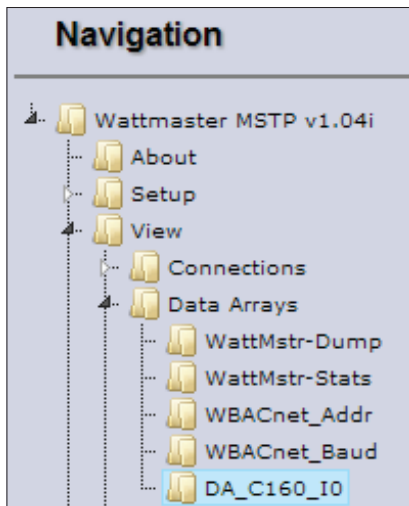

Figure 14: Navigation Window - View Data Arrays
1.) In the *Navigation Window* on the left of the *FS-GUI Main Screen*, click **<View>** and then click **<Data Arrays>**. See **Figure 14**.